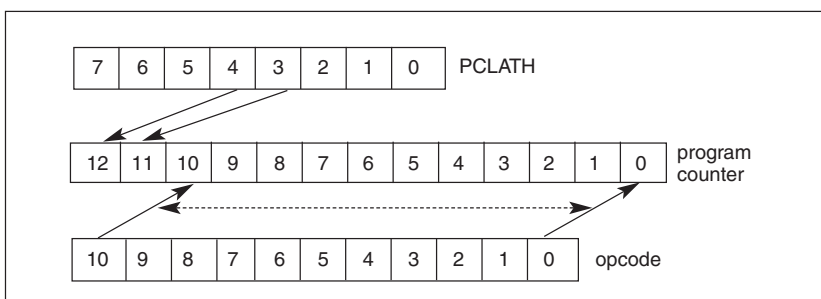

Fig.1. Setting the Program Counter for an Arithmetic Instruction
The program example shows how this is done. Fortunately, the value may be set into PCLATH for all 5 (4) bits and need not be changed again until after the table has returned its value. Fig.1 illustrates this process.
Execution now passes to the first line in Listing 2. There the first five bits in PCLATH are prepended to the ALU result of the arithmetic operation, as in Fig.1.